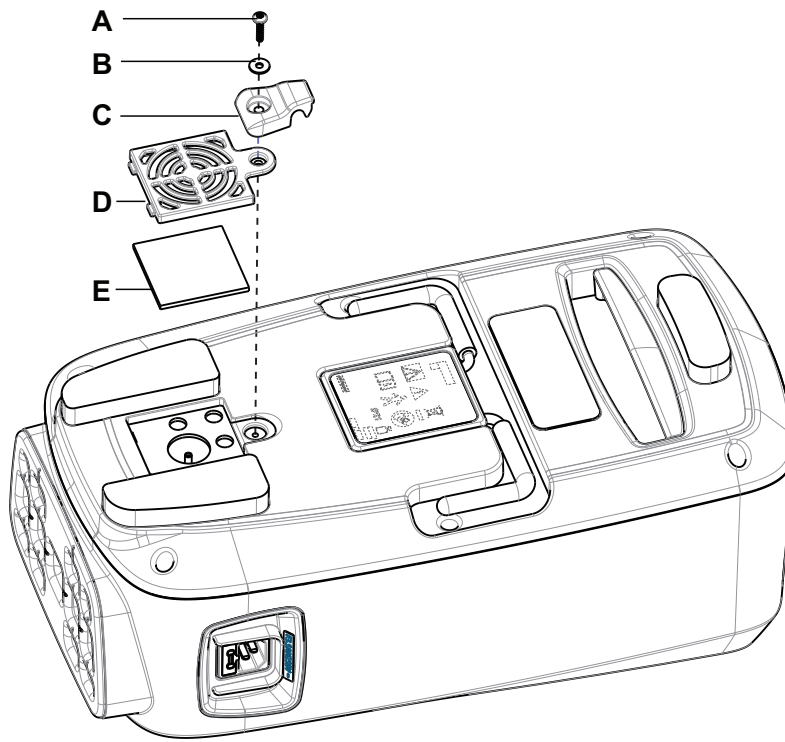

Figure 7 – Access the ground pin
4. Using a T20 Torx driver, remove the screw (A), the washer (B), and the flex grip (C) that secure the air filter access door (D) (Figure 7). Save the screw, washer, and flex grip.
5. Remove the air filter access door (D) and the air filter (E) (Figure 7). Save the air filter access door and the air filter.
6. Using a digital multi-meter, perform a ground continuity check. Use the meter leads between the power inlet ground pin and the metal screw behind the air filter (E) (Figure 7). This should measure ≤ 100 ohms.